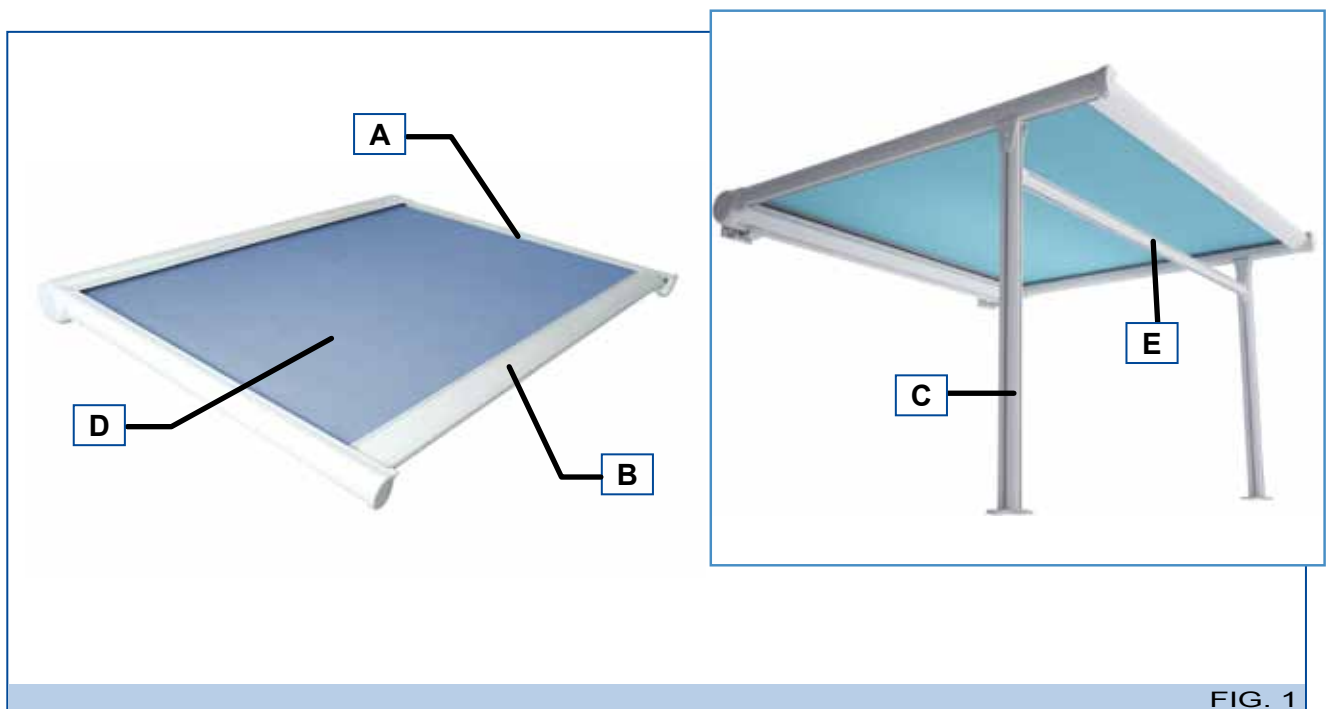

FIG. 1
- **Metal framework:** this is the bearing structure, containing the various mechanisms for opening and closing the awning. It comprises a frame with guide section bars (A - Fig. 1) inside which the canvas, a terminal bar (B-Fig. 1) and a winder tube.
- **Canvas (D - Fig. 1):** the canvas covers and protects the awning.
The awning model has frontal columns (C - Fig. 1) and the windbreaker roller (E - Fig. 1).